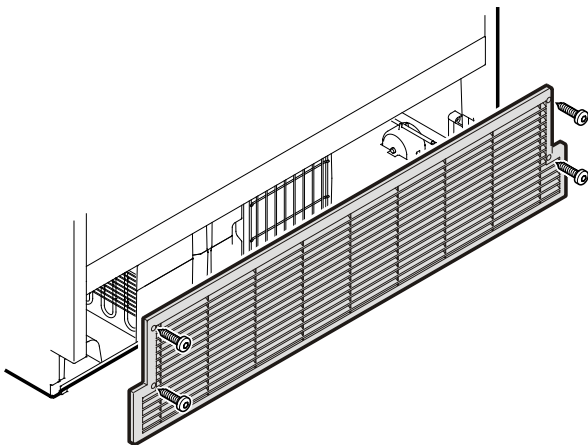

Figure 30
3. Mount the ventilation grille as shown in **Figure 30**.